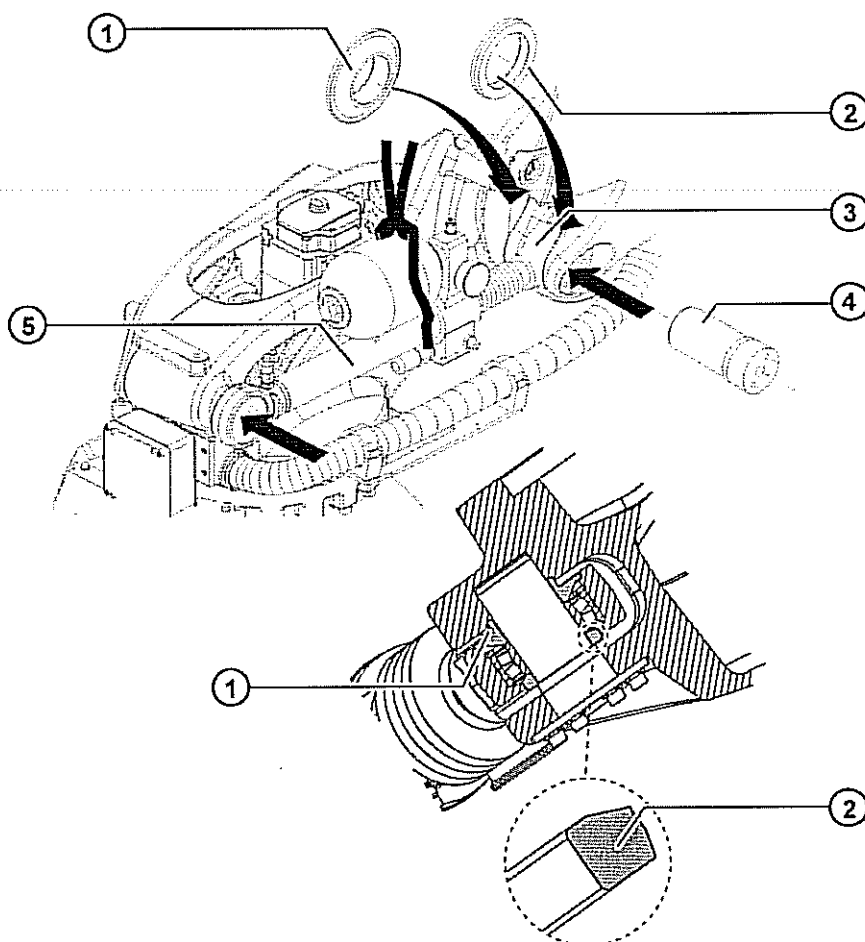

Fig. 12-25: Installing the counterbalancing system: pin
11. Move the link arm until the counterbalancing system can be inserted into the link arm. At the same time, move the element securing the link arm accordingly (>>> Fig. 12-25).